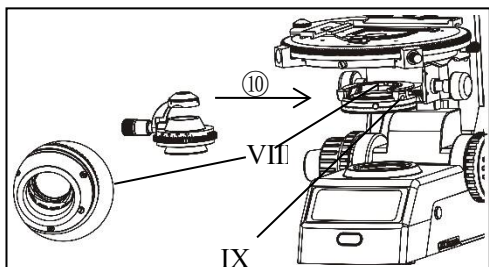

Figure 12
**4-2-10 Install swing-out condense (Figure 12)**